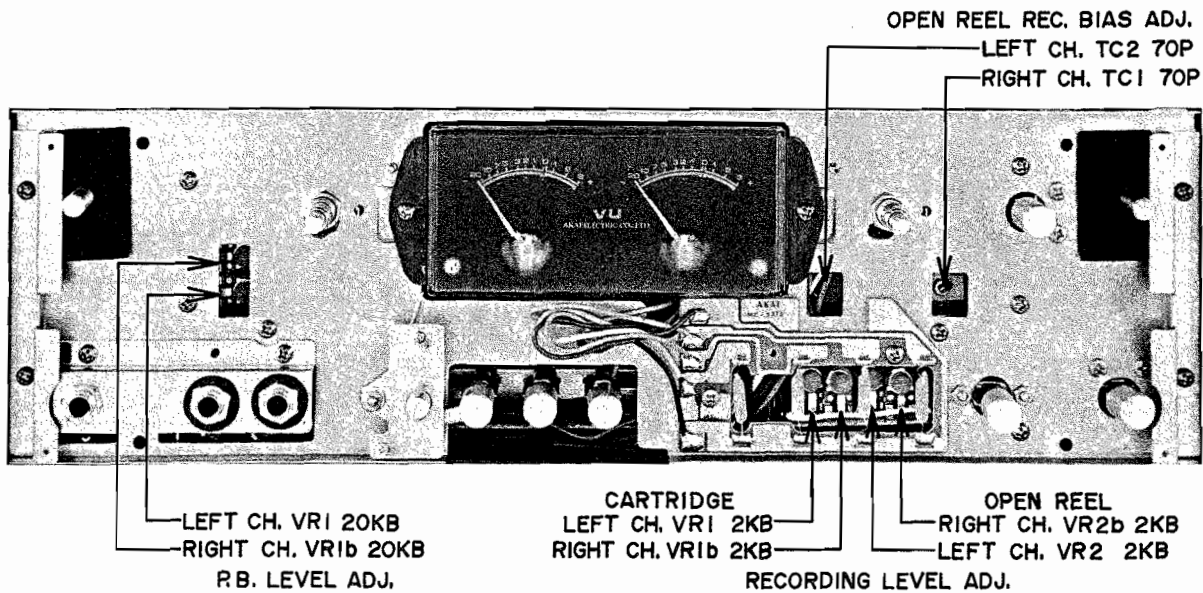

Fig. 20
- 6) Adjust Pre-amp. P.C. Board Playback Level Adjustment Semi-fixed Resistors VR1 20 kB (left ch.), and VR1b 20 kB (right ch.) in Fig. 20 to obtain a high sensitivity V.T.V.M. indication of 4 dB (1.228 V).
- 9) In the event that the V.T.V.M. indication is not 4 dB, adjust Mode Switch P.C. Board Open Reel Recording Level Adjustment Semi-fixed Resistors VR2 2 kB (left ch.) and VR2b 2 kB (right ch.) shown in Fig. 20 to obtain a 4 dB (1.228 V) V.T.V.M. indication.